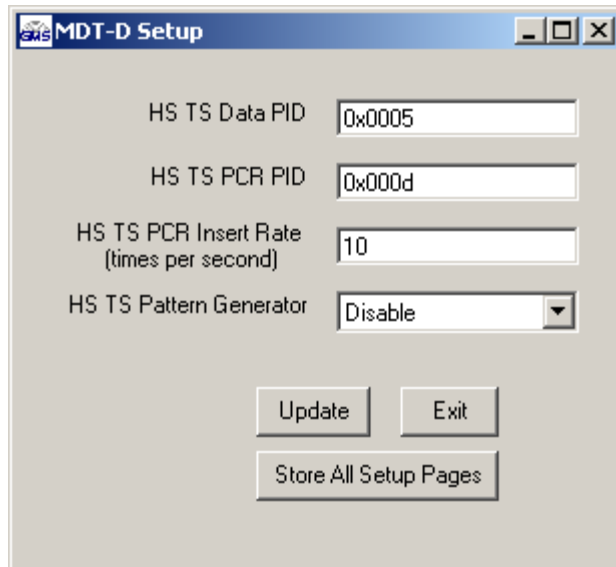

Figure 6 – HS TS SETUP
- **HS TS Setup** – This menu displays the following (see Figure 6):